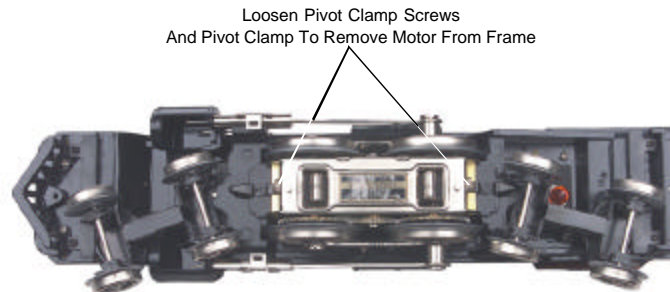

Figure 7: Removing the body from the chassis
1. To access the drive train, remove the cab from the chassis by loosening the (2) screws located on either end of the motor chassis as seen in Figure 7. Once loosened, remove the motor chassis cover plate.